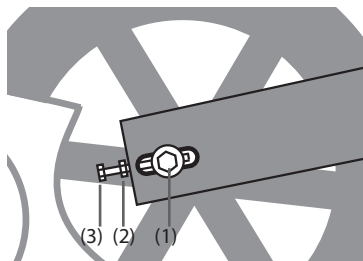

Figure 30
3: Loosen the nuts (2) on the counter bolt on both sides of the cycle using a 10mm wrench, see figure 30.